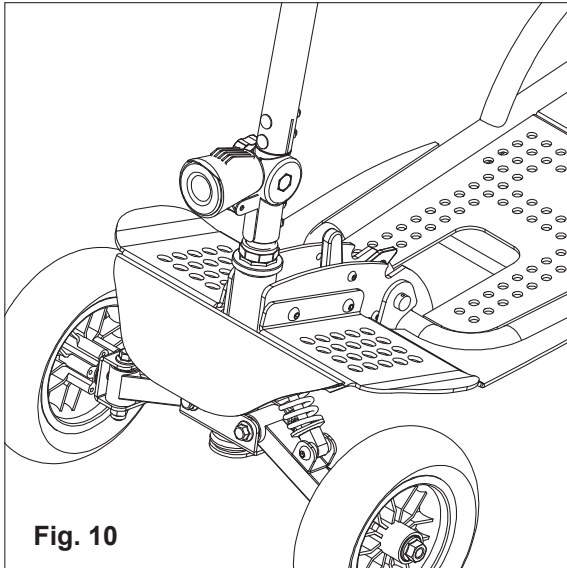

Fig. 10
- 1) The LED & Horn are combined at one part (Fig.10). Once insert the battery, the power is ON.